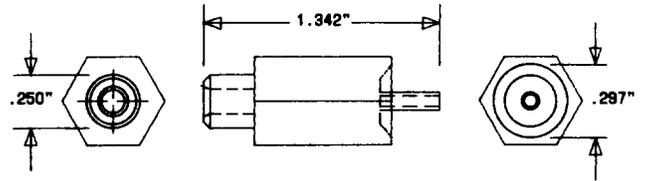

Fig. 29—KS-21873, L1, Inserting Guide Bushing Tool
2.31 **KS-21873, L1**: The KS-21873, L1, inserting guide bushing tool (Fig. 29) is used with the 440-type coaxial plugs.